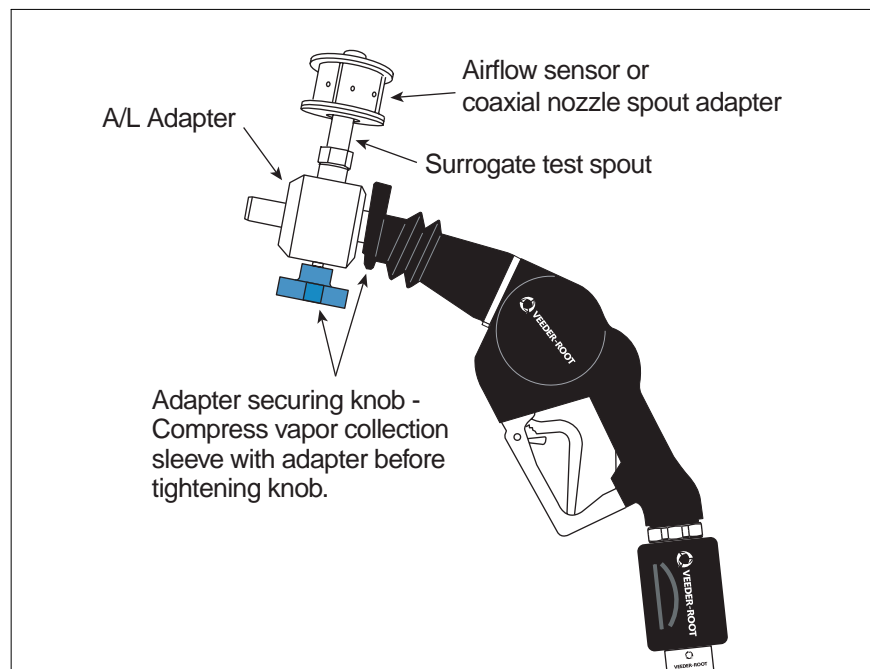

Figure 7. Non-Roots A/L Adapter Test Setup
5. Install the Airflow Sensor or coaxial nozzle spout adapter unit onto the special surrogate test spout. The holes in the test spout should be in between the elastomeric seals on the Airflow Sensor or coaxial nozzle spout adapter (see Figure 7).